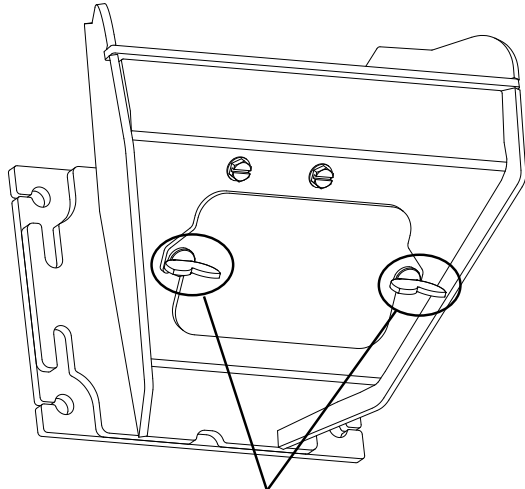

Figure 33
Whenever adding fuel to the hopper, take the time and scrape the grate surface of the burnpot, using the scraper tool provided. This can be done while a fire is burning. Wearing heat resistant gloves, open the firebox door. Scrape any accumulated ashes from in front of the fire, into the ash pan. Now, scrape under the fire, in a downward direction, to loosen any carbon deposits. Do not scrape the fire out of the pot. Whatever you loosen will be pushed out with the flow of new fuel into the pot. (Figure 33)
4. Scrape burnpot with flat end of scraper provided with the stove. Inspect the holes on the burnpot surface. See Figure 33.
2. Loosen the (2) wing thumb screws on the lower front angle of the burn pot. (Figure 33)